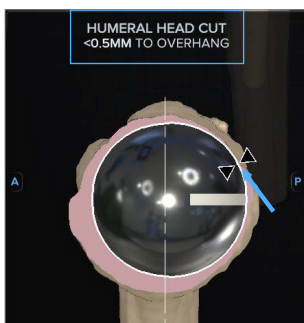

Figure 49. Humeral head cut panel
- Verify the eccentricity of the Univers II head on the collapsible humeral head cut panel as shown in Figure 49, where the white line represents the maximum eccentricity of the implant. The location and distance from the edge of the implant to the cortical rim is indicated as pictured in Figure 49.